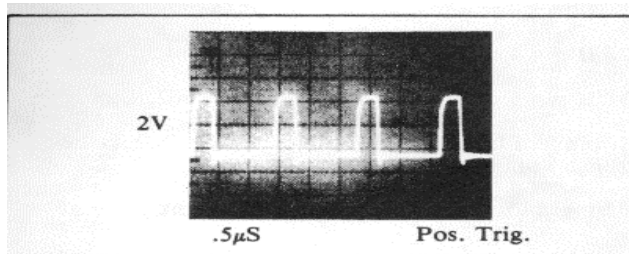

Figure 7-D-5. U462 ALE Signal
c. Make sure the ALE line at TP403 (U462 pin 11) is good, as shown in Figure 7-D-S. If the signal is missing or incorrect, make sure the CPU's clock (at pin 2 and 3 of U462) is at 10.98MHz. Try replacing crystal Y460, if the signal is missing. If still missing, replace U462.